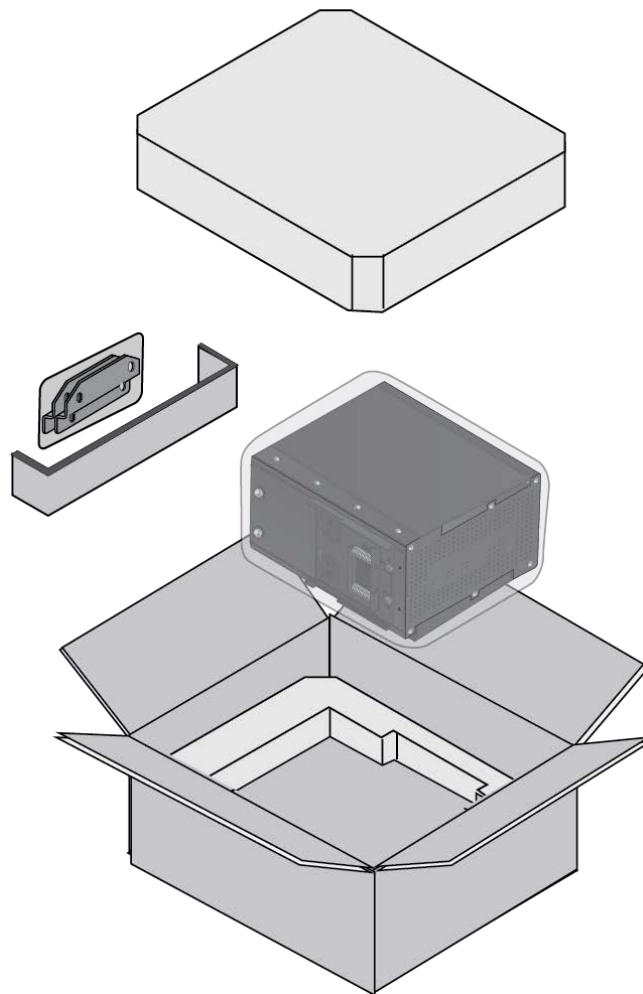

Figure 13. Removing the Switch from the Shipping Box
1. Remove all the components from the shipping box. Refer to Figure 13.